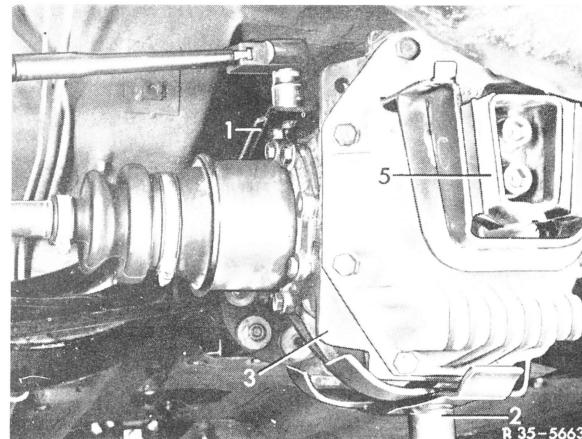

Fig. 9
**12** Unscrew rear axle center housing (3) from rear axle carrier (1) (Fig. 9).
**18** Mount rear axle center housing to rear axle carrier. Tighten self-locking nuts to 100 Nm (10 kpm) (Fig. 9).